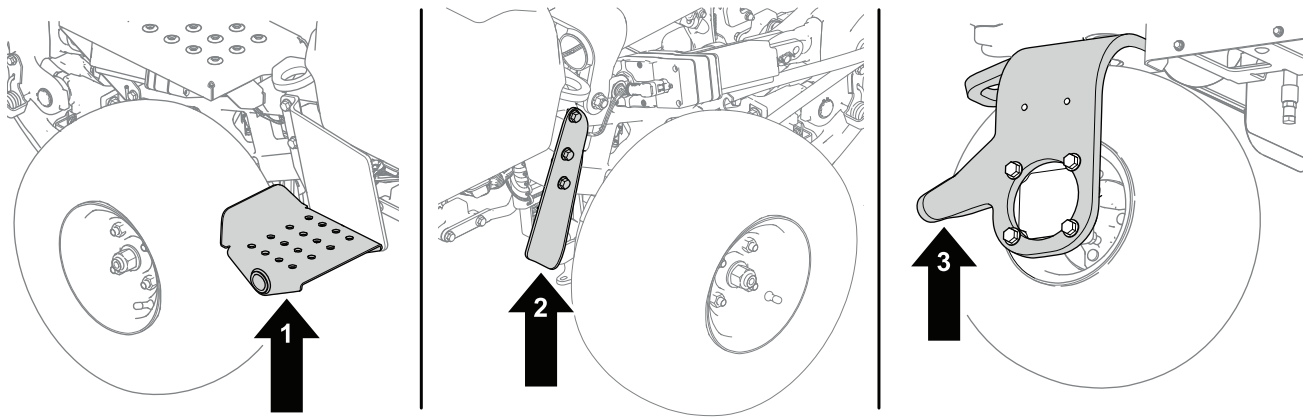

Figure 38
1. Position a jack at the desired jacking point (Figure 38):